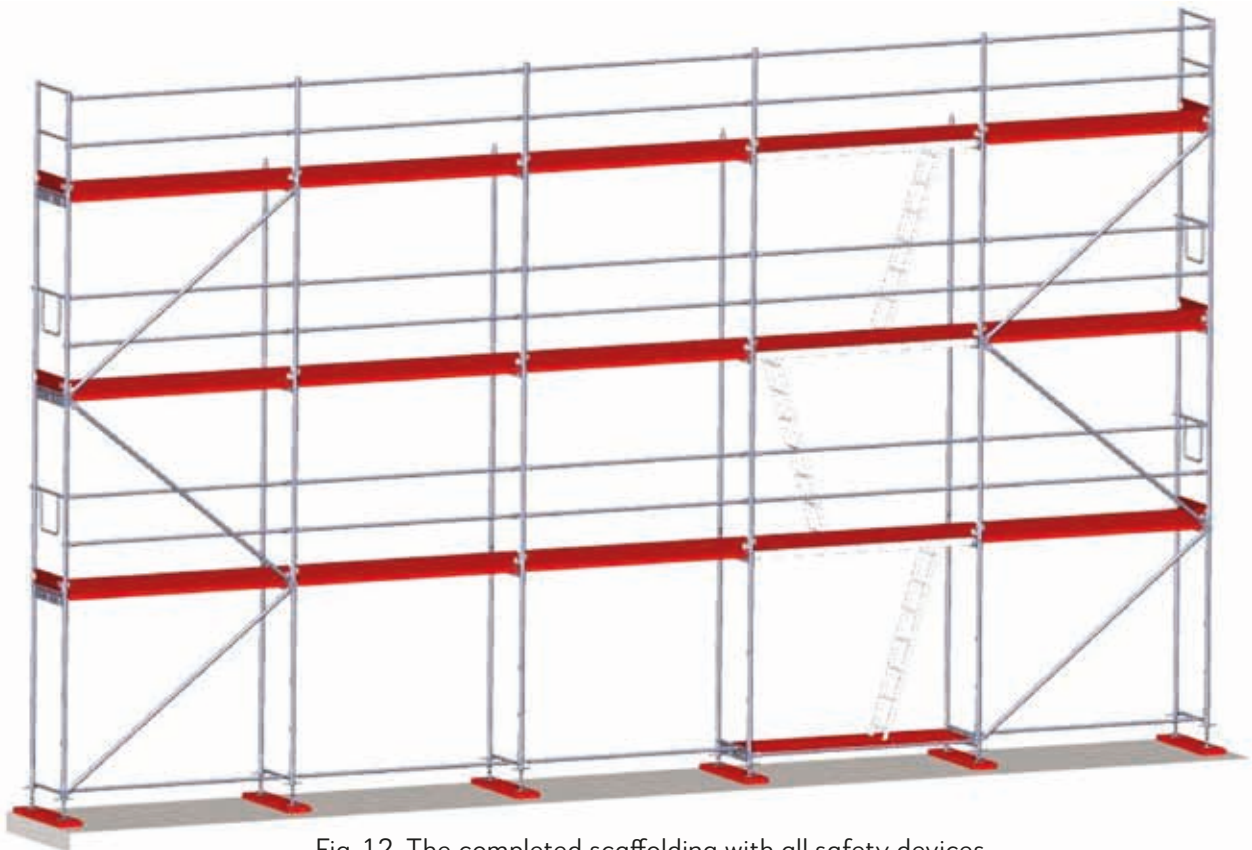

Fig. 12. The completed scaffolding with all safety devices.
- After installing the decks on the top floor, the safety devices should be installed in accordance with 2.2.6. (Fig. 12); the front guardrail and the railing posts must be secured with frame cotter pins to eliminate the possibility of uncontrolled disconnection.